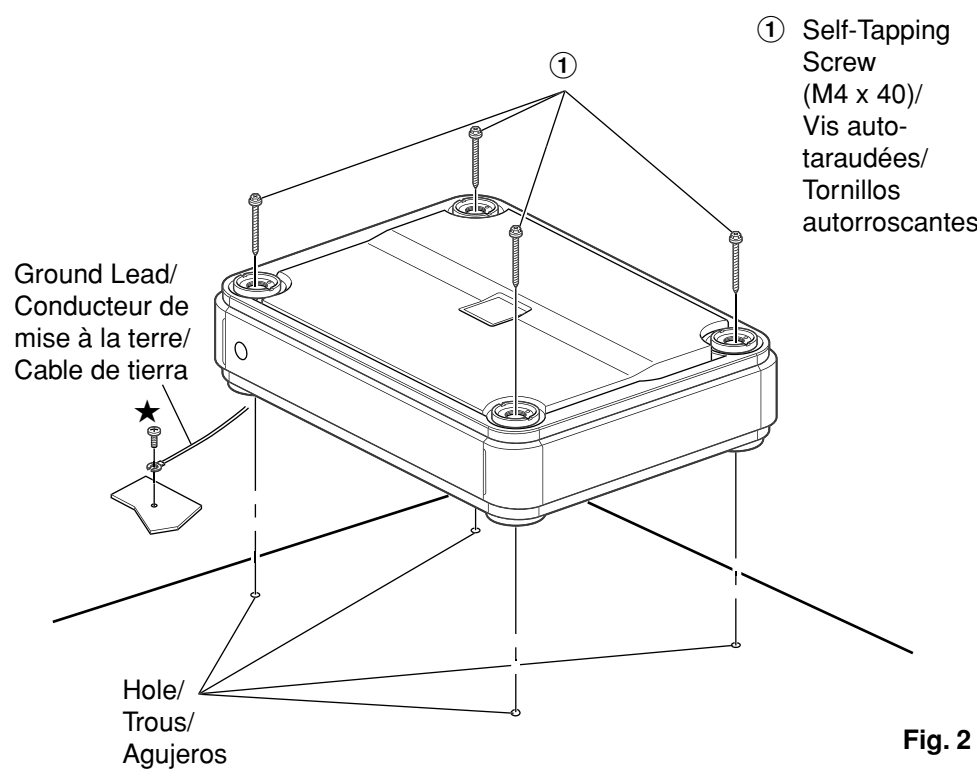

Fig. 2
- Self-Tapping Screw (M4 x 40, see ① of Fig.2 on the left)
- Fasten the unit down with the four self-tapping screws (M4 x 40, supplied). Refer to fig.2.